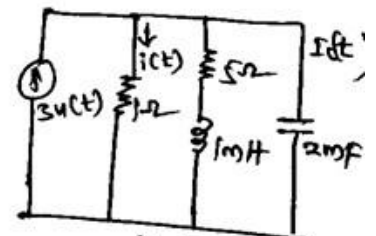

fig 6.3
24. The network shown in fig 6.3 has the switch K opened at $t=0$. Solve for v , dv/dt , d^2v/dt^2 at $t=0^+$